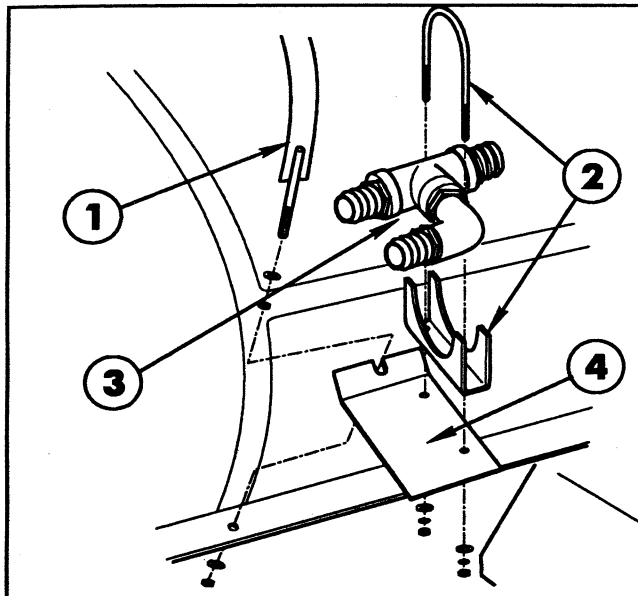

FIG. 8
8. Secure the Mounting Member to the Vehicle's cross member with two (2) 1/2" x 1-1/2" cap screws, flat washers, lock washers and hex nuts.
9. Remove hex nut and flat washer securing Front Tank Band to left side of saddle. Install 3/8" hex nut and flat washer and reinstall Tank Band to Saddle with previously removed fasteners. Mount the Tee Mounting Bracket to the left side of the saddle at the front Tank Band, using 5/16" flat washer and hex nut, previously installed, as shown in FIG 8.